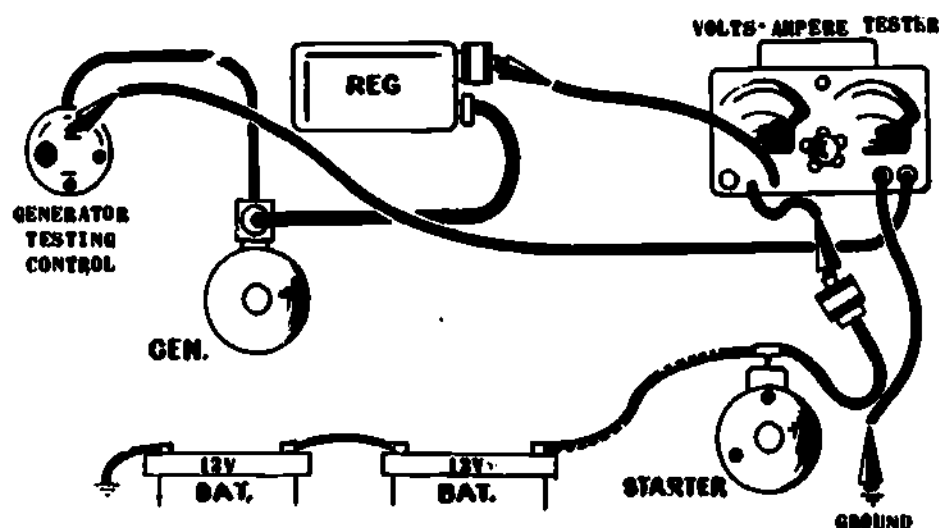

Fig 1-20. Cutout relay test.
6. Cutout relay test (fig 1-20). The cutout relay is a part of the regulator assembly which opens and closes the circuit between the generator and the battery. When the generator is producing enough current to overcome the battery voltage, the cutout relay closes and allows the current to flow to the battery. This relay will open the circuit when the generator is not producing enough current and prevent the flow of electricity from the battery to the generator. The component parts of the regulator are tested after the generator and charging circuits have been tested and are operating satisfactorily.